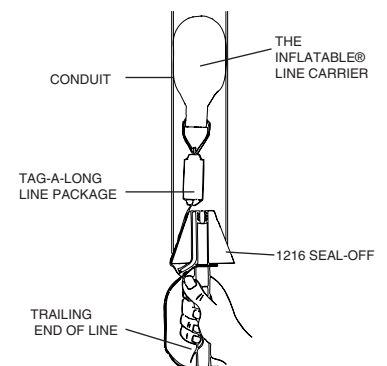

Figure 8
- Unfurl the Inflatable line carrier and place it in the conduit-bag portion first (Refer to Figure 8).